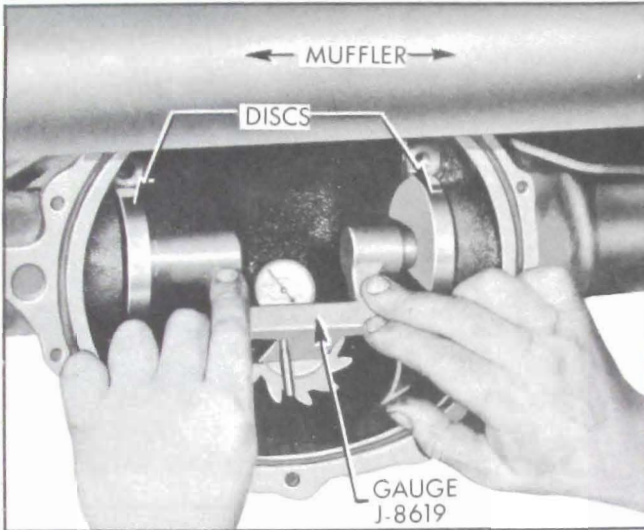

Figure 6-29—Checking Pinion Depth
button has a good contact with gauging tooth of pinion. See Figure 6-29.
7. Recheck pinion setting with gauge. See Figure 6-29. Setting for new pinion must be within .0015" of setting marked on pinion. Setting for used pinion should be within .0015" of original setting (as checked before disassembly).